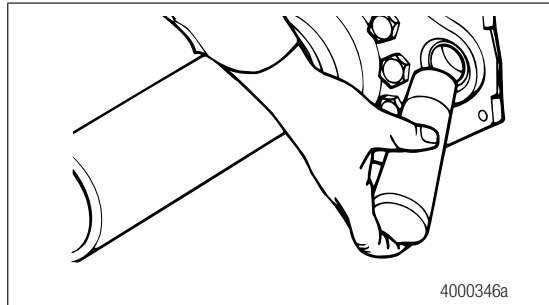

Figure 4.6
2. Use a seal driver to install new camshaft seals and new bushings into the cast spider and camshaft bracket. Figure 4.6.